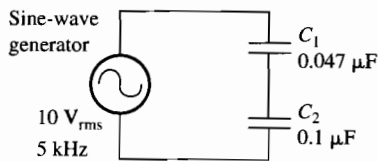

Figure C-9-1
13. Consider the circuit shown in Figure C-9-1.